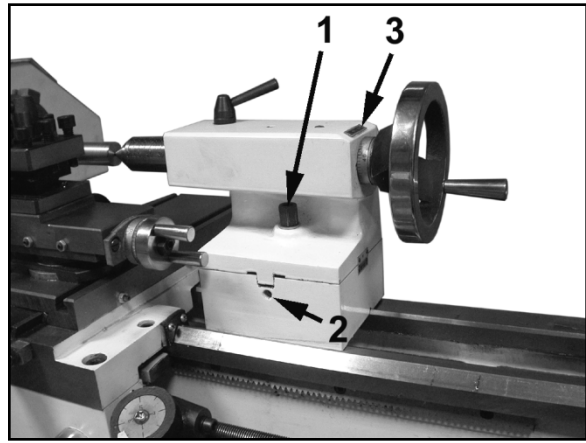

Figure 16
To off-set the tailstock, loosen locking screw (1, Figure 16) loosen the front adjusting screw (2) and take up the same amount by tightening the rear adjusting screw (3) until the desired taper has been reached. Tighten the front screw to lock the tailstock in position. The workpiece must be held between two centers and driven by a faceplate and driver dog.